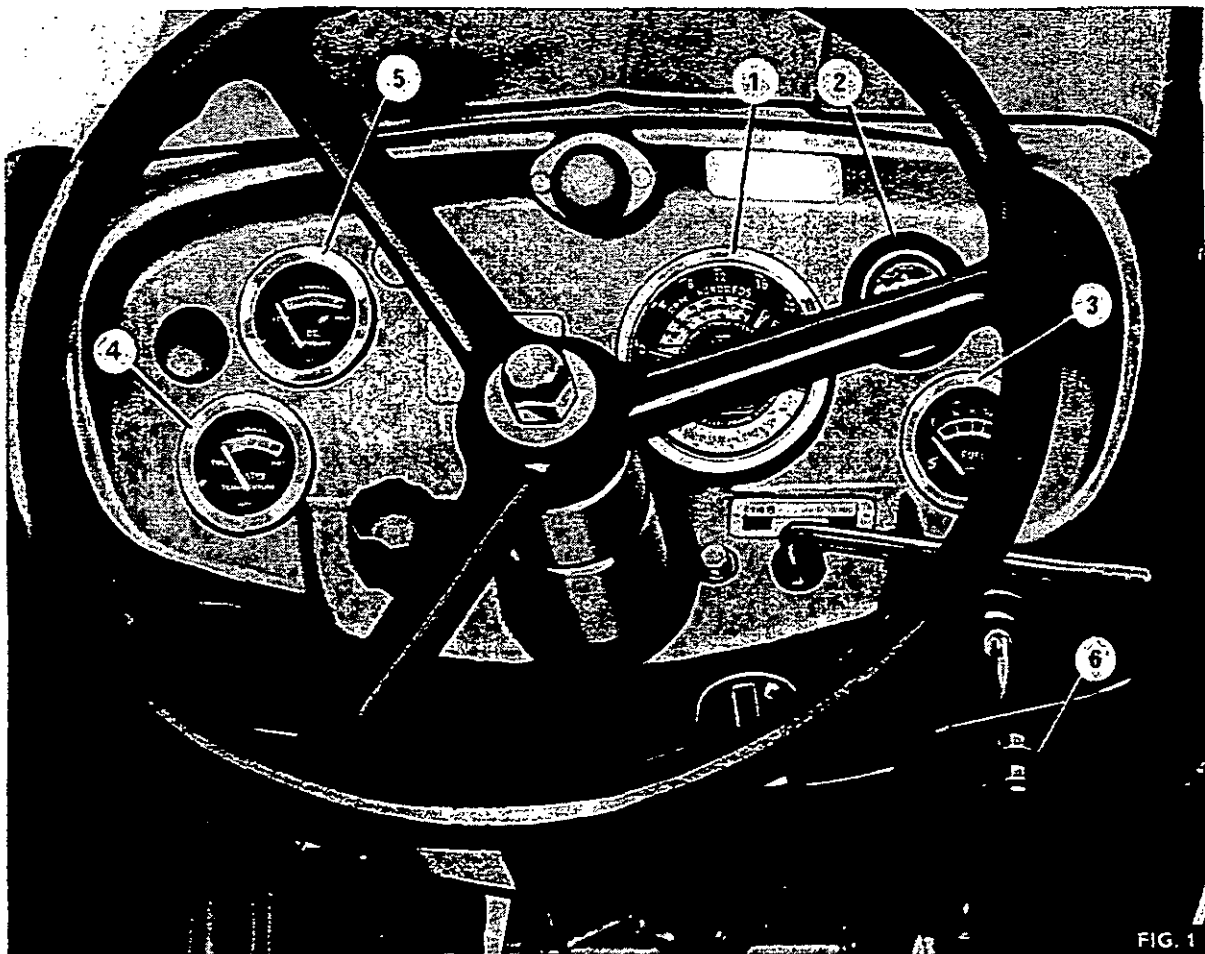
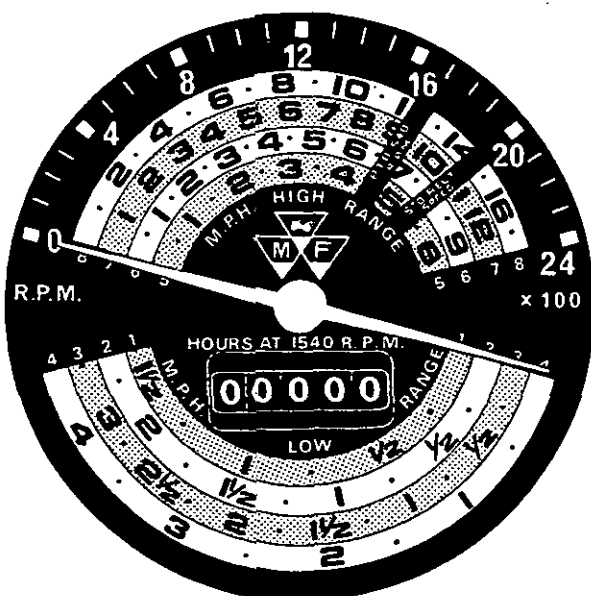
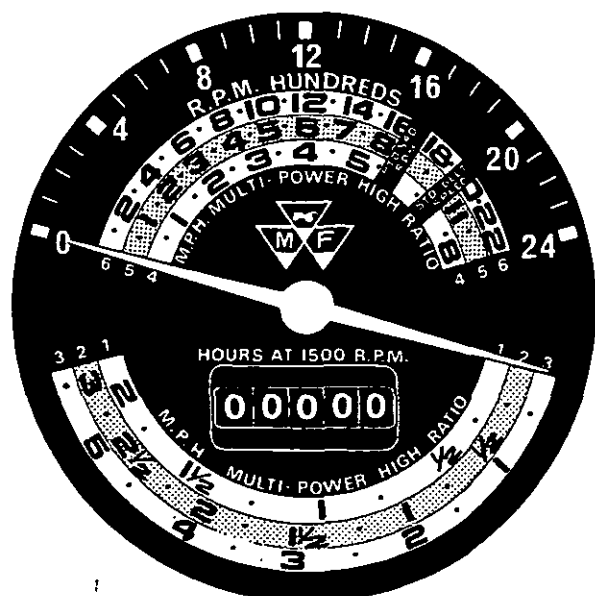

FIG. 1
FIG. 2a
FIG. 2b
**Tractormeter (1, Fig. 1 and Fig. 2a and 2b)**
2. The top inner set of figures and graduations are sub-divided into bands and indicate the tractor ground speed in high range, 5th, 6th, 7th and 8th gear respectively (8 speed transmission Fig. 2a) or high range, high ratio 4th, 5th and 6th gear (Multi-Power transmission Fig. 2b), working from the inner band outwards.
**INSTRUMENTS AND INSTRUMENT PANEL****Ammeter (2, Fig. 1)**
**Fuel Gauge (3, Fig. 1)**
**Temperature Gauge (4, Fig. 1)**
**Oil Pressure Gauge (5, Fig. 1)**
**Air Cleaner Service Indicator (6, Fig. 1)**